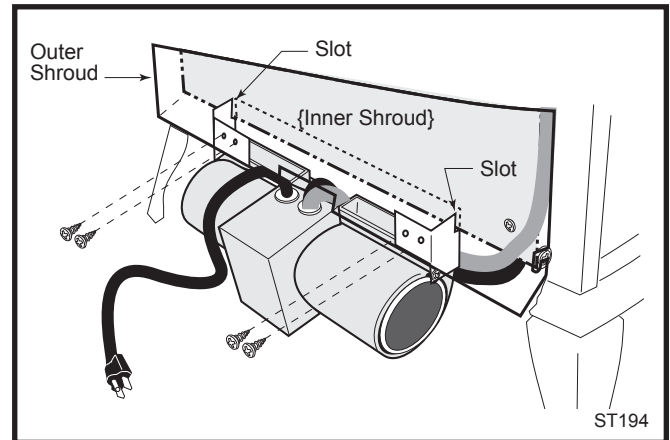

Fig. 12 Position the fan to engage the inner shroud with the fan bracket slots and secure with sheet metal screws.
6. Position the fan assembly so the ducts slide between the inner and outer shroud. The inner shroud should engage with the two slots in the ends of the bracket so that bracket and shroud are interlocked. (Fig. 12) Secure the bracket with the four sheet metal screws provided in the finish bag.